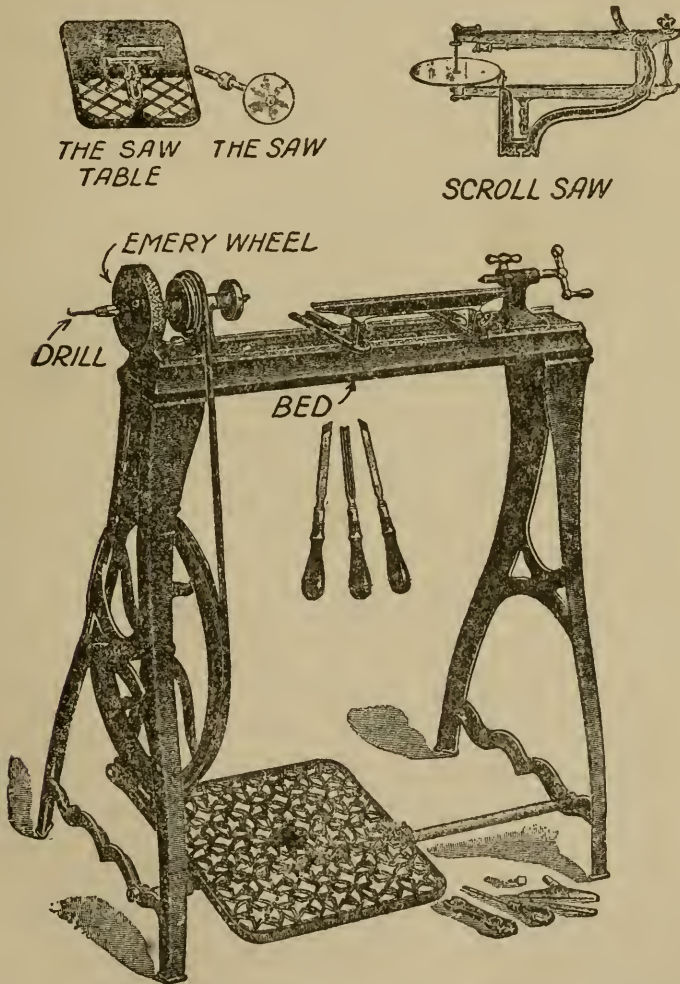

FIG. 17. THE CHEAPEST WOOD TURNING LATHE MADE
by the Millers Falls Company, Millers Falls, N. Y., and it costs \$10.50. It has a long and a short rest, three turning tools and a 2 inch face plate and spur center. When you get it uncrate it, set it up, oil it well and you are ready to do some turning. The lathe is shown complete in Fig. 17.
*Attachments for the Companion Lathe.*— This lathe is fitted with a 4 inch emery wheel without extra charge. A very useful attachment is a circular saw 3 inches in diameter and a saw table 6 x 7 inches with a straight edge guide; it costs \$1.25 extra. A scroll saw attachment that can be clamped on the lathe bed may be bought for \$3.00 extra. Both of these attachments are shown in Fig. 17. Of course better and larger lathes can be had for more money.